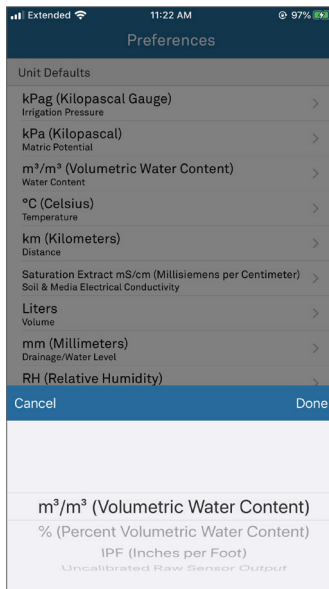

Figure 12 Changing preferred units
3. Scroll through the units to highlight the desired units (Figure 12).